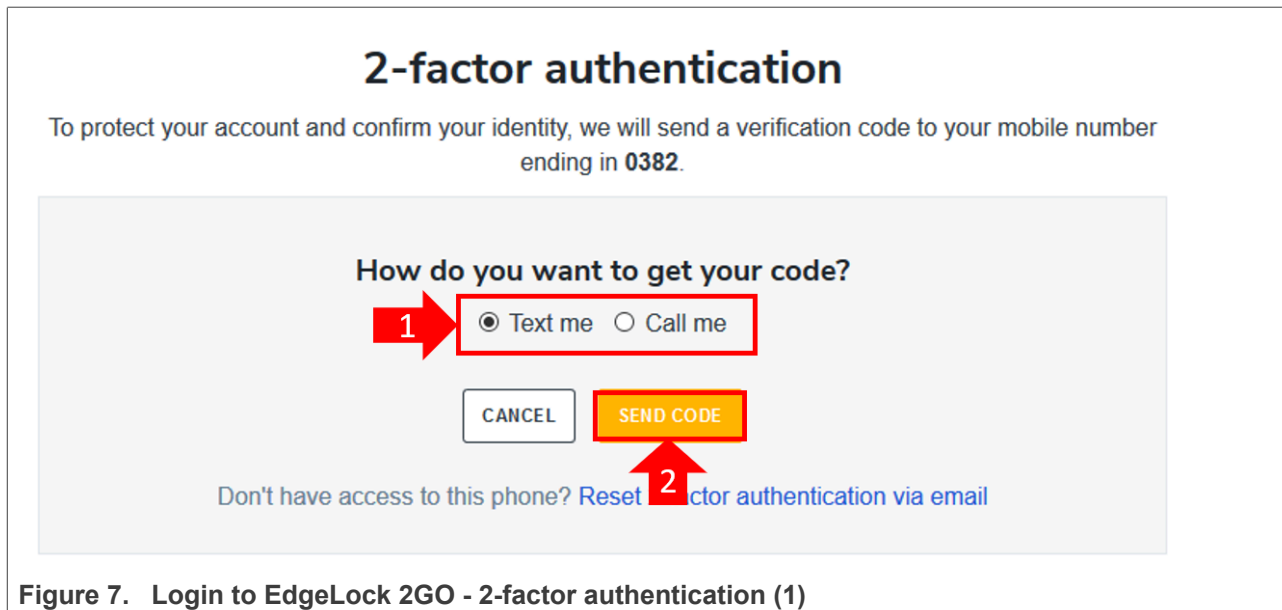

Figure 7. Login to EdgeLock 2GO - 2-factor authentication (1)
2. If you activated 2-factor authentication, you will be asked how you prefer to receive the single use code as shown in Figure 7: